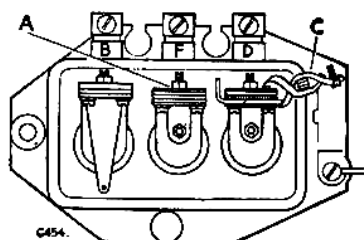

Fig. P-20—Short-circuiting voltage regulator contacts.
- Slacken the adjustment screw locking nut (see Fig. P-20) and turn the screw in a clockwise direction to raise the voltage setting, or anti-clockwise to lower the setting. Turn the screw a fraction of a turn only at a time and re-tighten the locknut.
- When setting the current regulator on the vehicle, the dynamo must be made to develop its maximum rated output, whatever the state of charge of the battery might be at the time of setting. The voltage regulator must therefore be rendered inoperative. To do this, the voltage regulator contacts should be short-circuited with a clip large enough to bridge the outer armature assembly securing screw and the insulated fixed contact bracket, as shown in Fig. P-20.